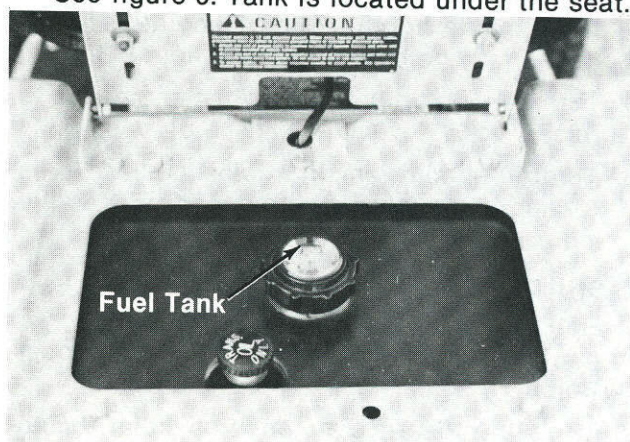

FIGURE 9.
3. Fill the fuel tank with clean, fresh, diesel fuel. See figure 9. Tank is located under the seat.